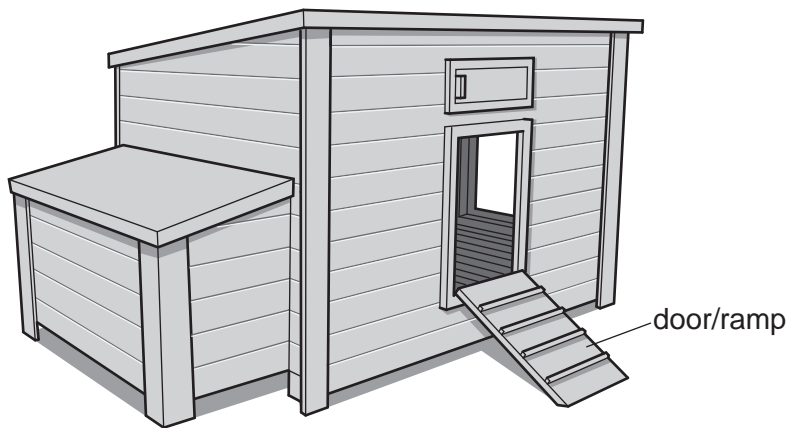

Fig. 8
- 11** Fig. 8 shows a chicken coop. The door/ramp is hinged and has to be opened and closed manually.